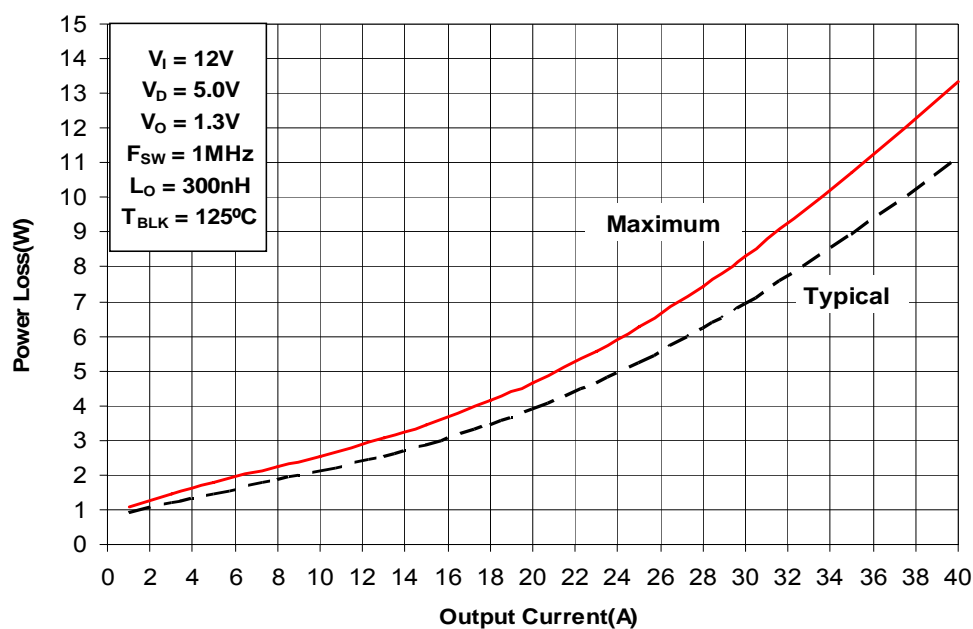

Figure 1 Power Loss Curve
1. Determine the maximum current and obtain the maximum power loss from figure 1
3. The maximum power loss under the application conditions is then the product of the power loss from figure 1 and the normalized values.
(Figure 1) Maximum power loss = 7.0W